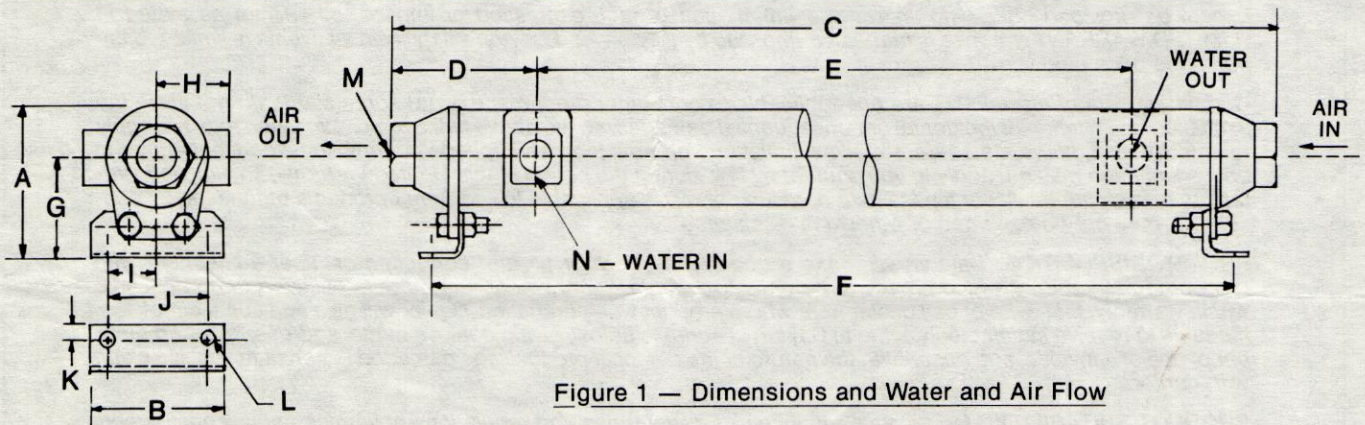

Figure 1 — Dimensions and Water and Air Flow
4. Pipe in cooling water, making sure that water flow is in the opposite direction of air flow. See Figure 1. This gives maximum use of cooling water.